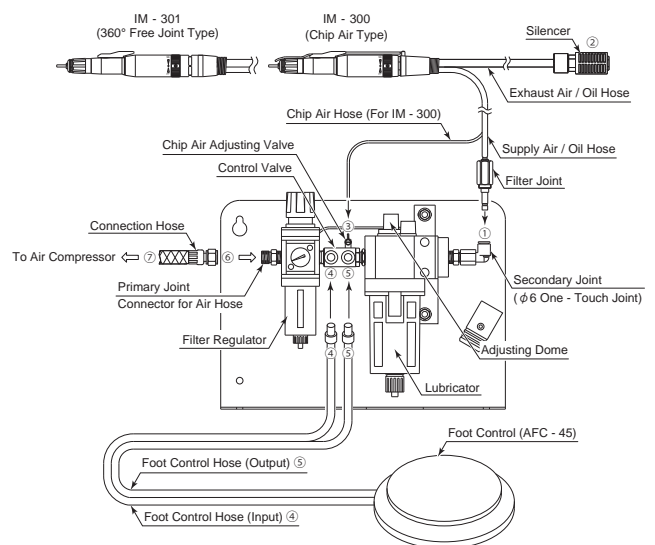

Fig. 4 Connection of Air Line Kit "AL - H1207F (Sold Separately)"
- Connect the Filter Joint of the Air Motor to the Secondary Joint (φ 6 One - Touch Joint) on the Air Line Kit. (Fig. 4 ①)
- Place "Exhaust Air Silencer / Oil Hose" into an empty container (Fig. 4 ②). (Exhaust outlet air and oil from the Silencer.)
* If using the ROTUS Air Motor "IM - 300", insert the Chip Air Hose to the Chip Air Adjusting Valve on the Control Valve (Fig. 4 ③).
- Insert the Foot Control Hose (Input) ④ to the One - Touch Joint ④ of the Control Valve (Fig. 4).
- Insert the Foot Control Hose (Output) ⑤ to the One - Touch Joint ⑤ of the Control Valve (Fig. 4).
- Connect the Connection Hose (Air Line Kit's Standard Accessory) to the Primary Joint of the Air Line Kit. (Fig. 4 ⑥)
- Connect the other side of the Connection Hose (Air Line Kit's Standard Accessory) to the compressor. (Fig. 4 ⑦)